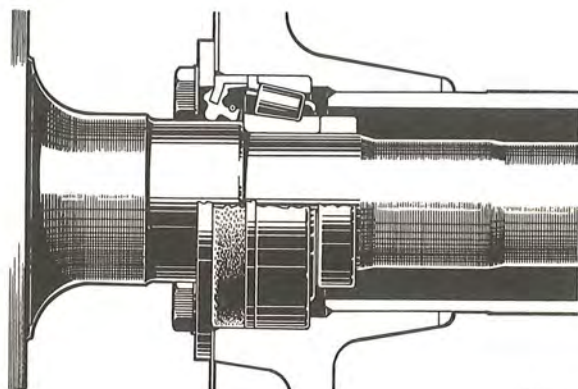

Fig. 4-70. Drive shaft journalling
The drive pinion is carried in taper roller bearings. The axial location of the drive pinion relative to the crown wheel is adjusted by means of shims under the outer race of the rear pinion bearing. Application of the pinion bearings is by means of shims under the front pinion bearing inner ring. The outer end of each drive shaft is journalled in a taper roller bearing. Bearing clearance is not adjustable but is determined by the construction of the bearing, see Fig. 4-70. There are oil seals on both sides of the drive shaft bearings.
5. Fill the space between the seal lips on the new oil with grease. Then place it on the drive shaft. Fit the bearing and lock ring. Turn the bearing correctly, see Fig. 4-70.